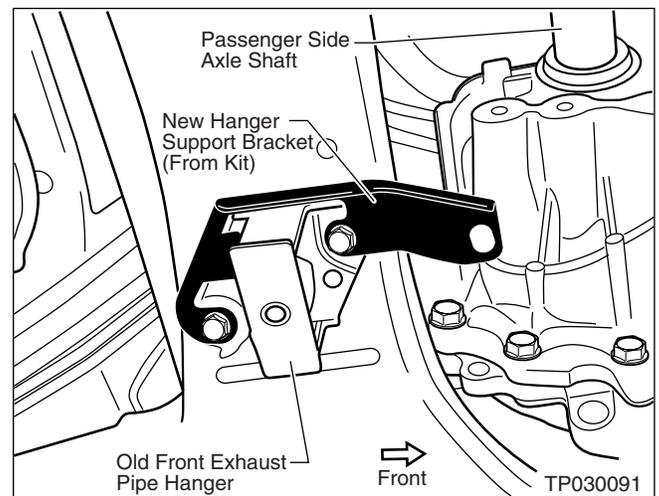

Figure E15
19. Install the new Hanger Support Bracket along with the old Front Exhaust Hanger (see Figure E15).